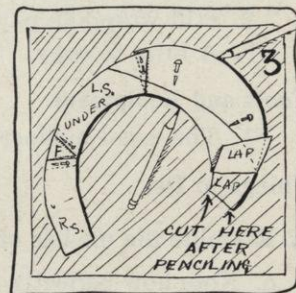

FIG. 3.
- (1) Pin the pieced paper, or crinoline pattern on fresh, stiff paper. Be sure that the pattern lies perfectly smooth on the fresh piece of paper (see Figure 3).
- (2) Trace headsize and edgewire (see Figure 3).
- (3) Make a line to indicate the lap (see Figure 3).
- (4) Put in all marks, such as front, back, left side, right side, and under facing (see Figure 3).
- (5) Show your work to your teacher at this point for her approval.
- (6) Cut out on edge and headsize (see Figure 3) as soon as your teacher approves.